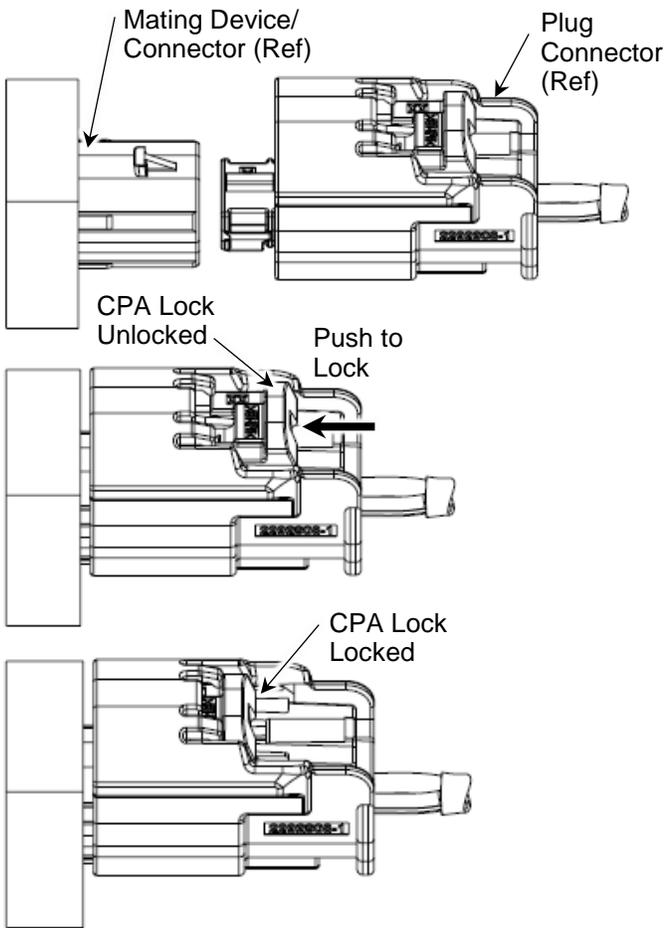

Figure 3
1. Align the plug connector with the mating connector so that the connector mating latch faces the mating latch of the mating connector, and the key slot faces the key of the mating connector. Then, push the connectors together. Refer to Figure 3.
2. If using the CPA lock, push the CPA forward until there is an audible and tactile “click”; locking and mating the connector together. See Figure 3.